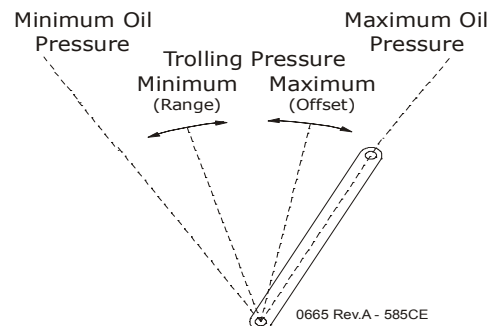

Figure 1: Trolling Valve Selector Lever
- Trolling valve lever will be at the maximum oil pressure position. (refer to Figure 1:)